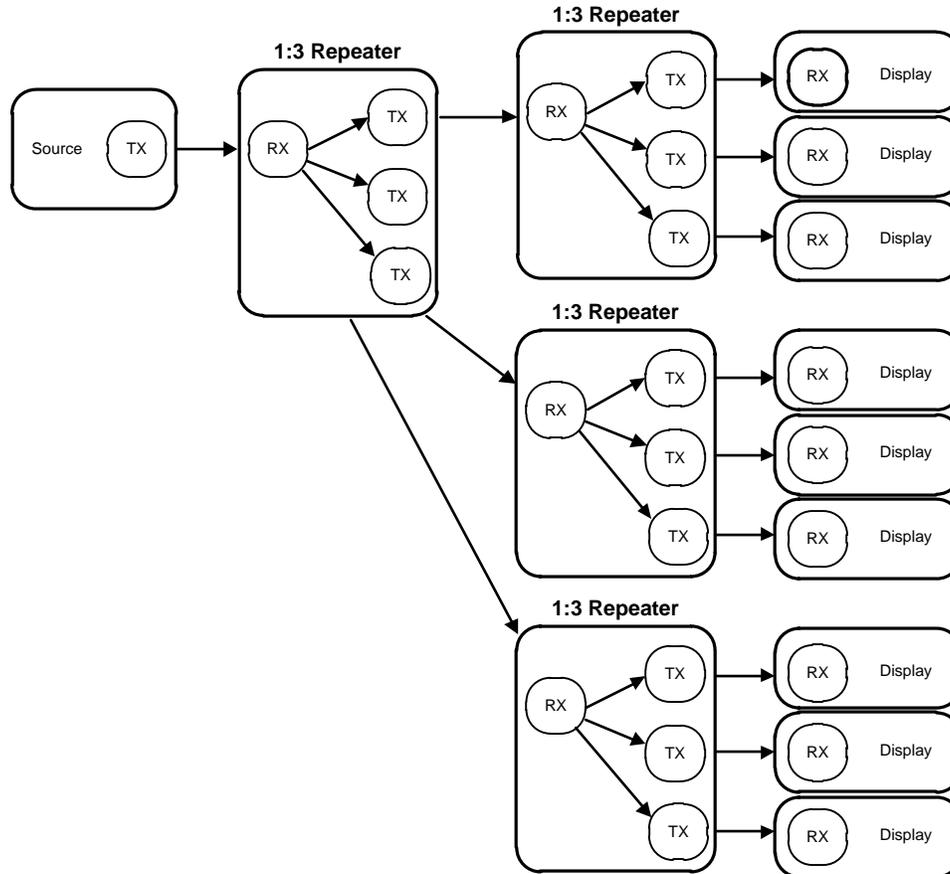

Figure 26. HDCP Maximum Repeater Application
In the HDCP repeater application, this document refers to the DS90UH927Q-Q1 or DS90UH925Q-Q1 as the HDCP Transmitter (TX), and refers to the DS90UH928Q-Q1 or DS90UH926Q-Q1 as the HDCP Receiver (RX). Figure 26 shows the maximum configuration supported for HDCP Repeater implementations. Two levels of HDCP Repeaters are supported with a maximum of three HDCP Transmitters per HDCP Receiver.